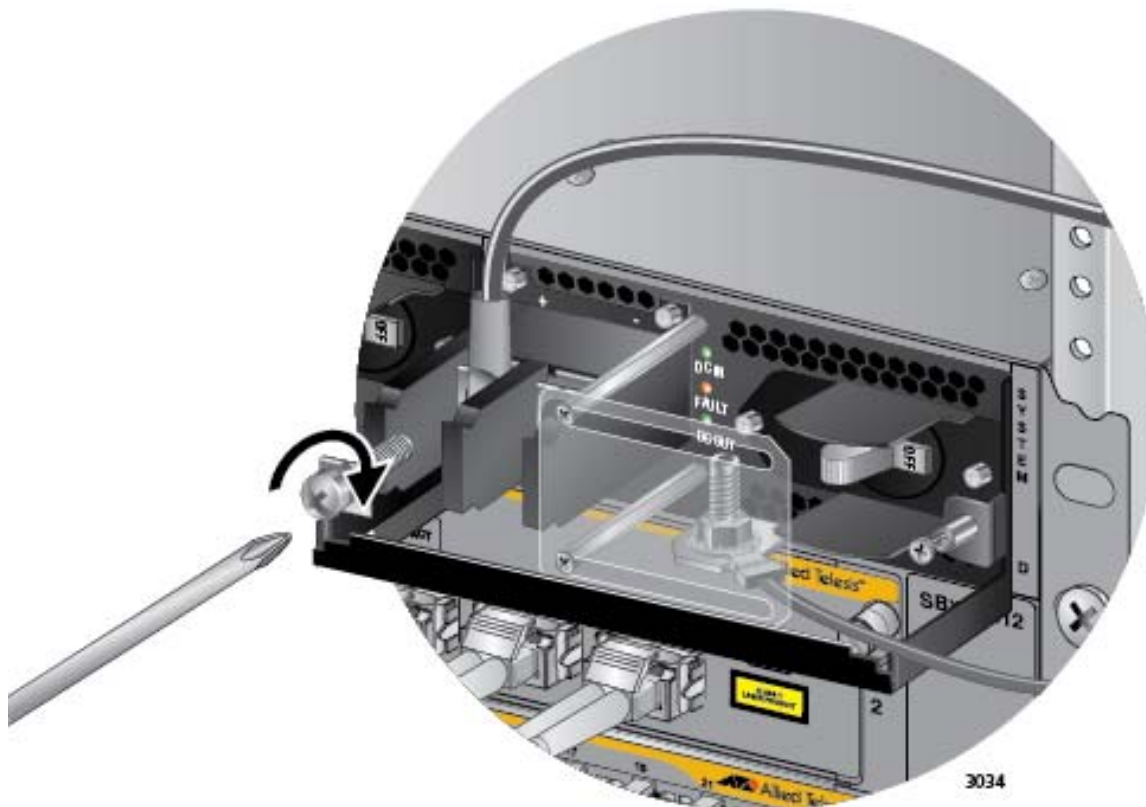

Figure 143. Connecting the Positive (+) Power Wire with a Straight Terminal
6. With a #3 Phillips-head screwdriver, connect the positive (+) power lead wire to the positive terminal on the power supply, with one of the terminal screws removed in the previous step. The positive terminal is on the left. You may attach the terminals with the wires either above or below the terminal block. Figure 143 on page 222 shows the positive wire above the terminal block.